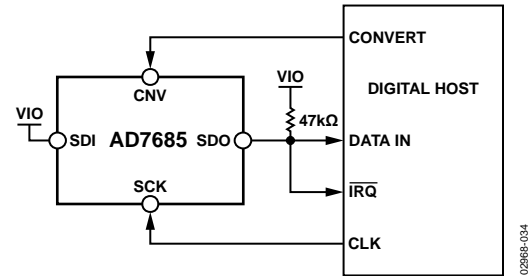
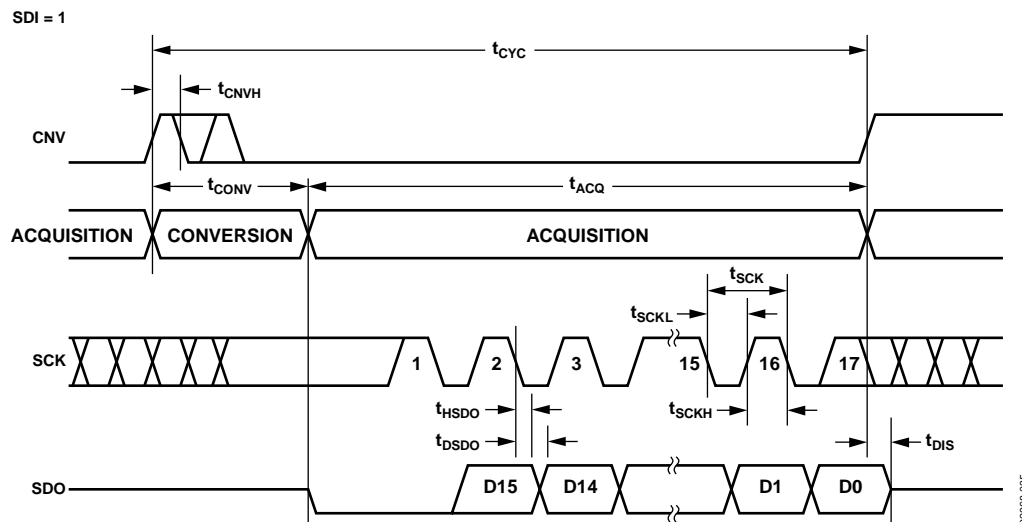
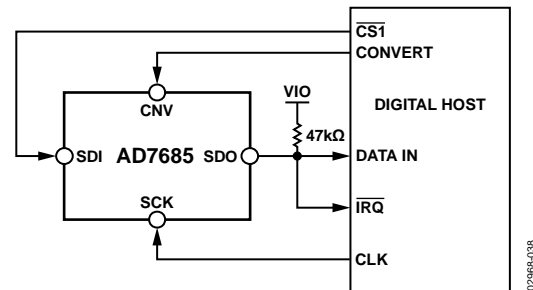
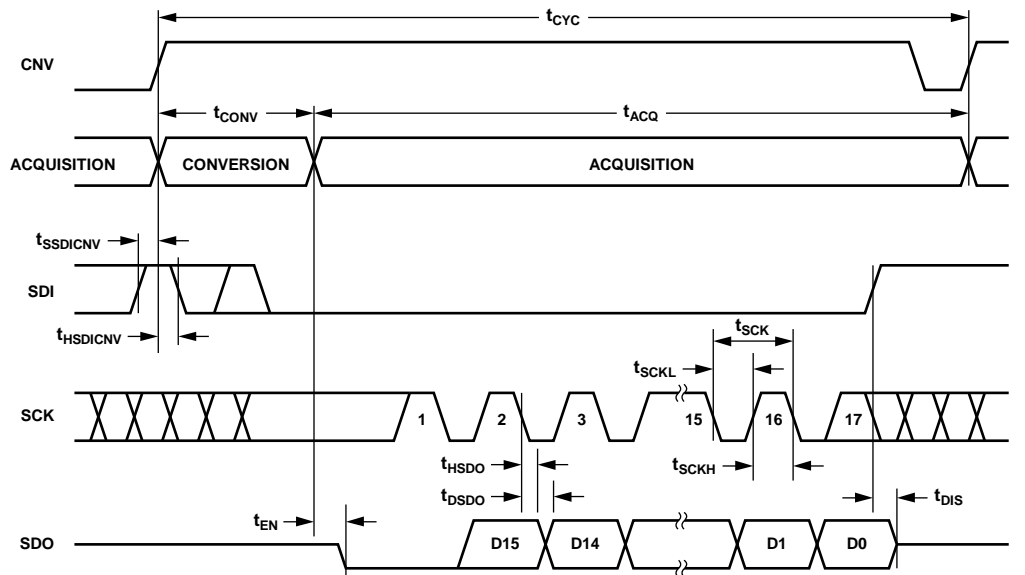

Figure 36. \overline{CS} Mode 3-Wire with BUSY Indicator Connection Diagram (SDI High)
Figure 37. $\overline{\text{CS}}$ Mode 3-Wire with BUSY Indicator Serial Interface Timing (SDI High)
Figure 40. \overline{CS} Mode 4-Wire with BUSY Indicator Connection Diagram
Figure 41. \overline{CS} Mode 4-Wire with BUSY Indicator Serial Interface Timing
- In the \overline{CS} mode, if CNV or SDI is low when the ADC conversion ends (see Figure 37 and Figure 41).
The connection diagram is shown in Figure 36, and the corresponding timing is given in Figure 37.
The connection diagram is shown in Figure 40, and the corresponding timing is given in Figure 41.